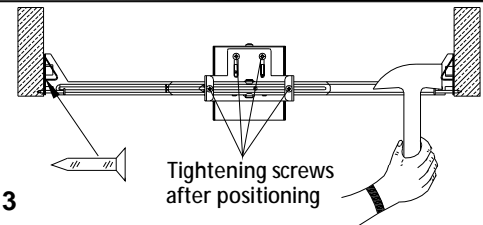

Fig. 3
1. Position the recessed kits between the joists, ensuring that the bar hangers are placed correctly. Temporarily position the recessed kits by hammering the "nail-in" tabs on the bar hangers, then secure them permanently with nails. Ensure that the bar hangers are level with the bottom of the joists. Vertically adjust the height of the recessed kits using the adjusting slots, and then tighten all screws on the adjusting slots and bar hanger brackets to secure the adjusting bracket and bar hangers (refer to Fig. 3).